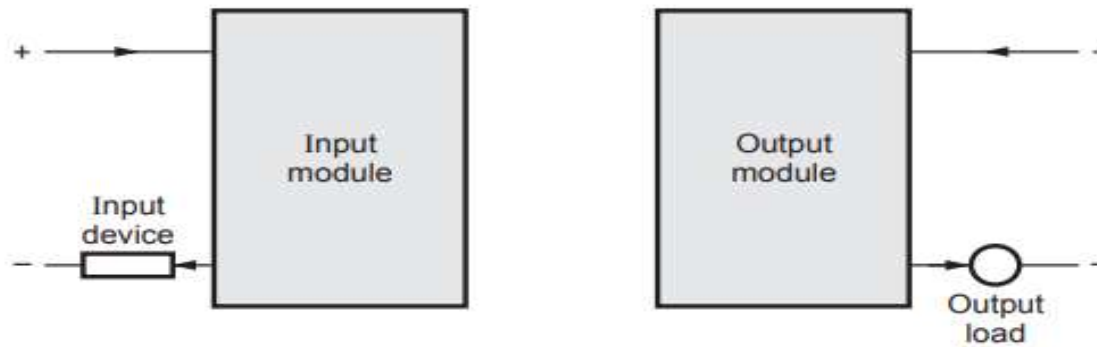

Fig. 4.11.1 Current sourcing
- Fig. 4.11.1 shows input module and output module in current sourcing mode.